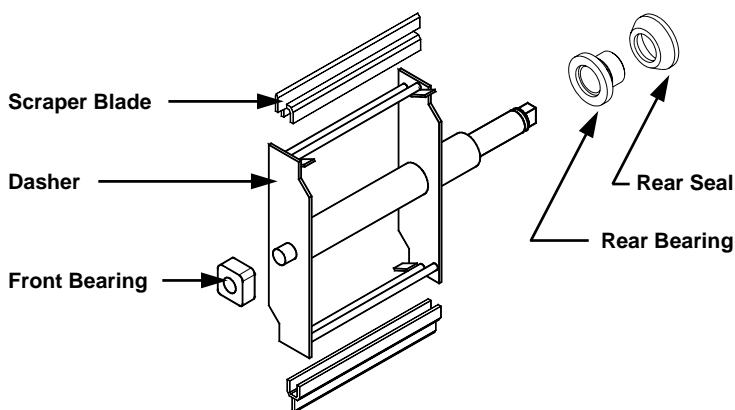

Fig. 10
- d. Install the o-ring on the rear of the dasher shaft (Fig. 10).
- e. Install the scraper blade onto the dasher (Fig. 10).
2. While maintaining force against the dasher, rotate it slowly until the tongue of the dasher engages the groove in the drive system at the rear of the cylinder. The outer most portion of the dasher should be recessed approximately 1/4" to 3/8" inside the freezing cylinder. No part of the dasher should extend outside the cylinder. Scraper blades should be visible, extending approximately 1/8" beyond the dasher. **Be sure to install the front bearing as shown in Fig. 10.**